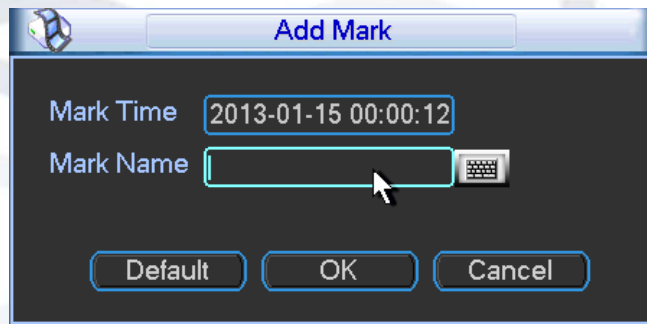

Figure 4-10
- **Add Mark:** When system is in playback mode, click the Mark button , you will be able to go to the following interface. See Figure 4-10.